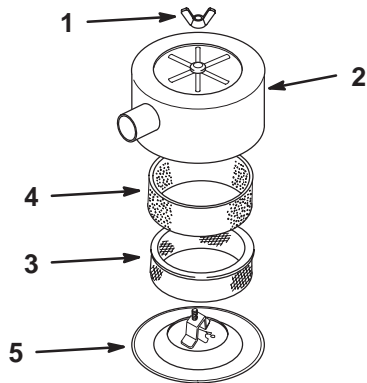

Figure 10
3. Clean around the air cleaner to prevent dirt from getting into the engine and causing damage. Unscrew the knob and remove the air cleaner cover (Fig. 10).
4. Carefully slide the foam element off of the paper element (Fig. 10).
5. Unscrew the cover nut and remove the cover and paper element (Fig. 10).
1. Carefully slide the foam element onto the paper air cleaner element (Fig. 10).
2. Place the air cleaner assembly onto the air cleaner base (Fig. 10).
3. Install the air cleaner cover and secure it with the cover nut (Fig. 10).